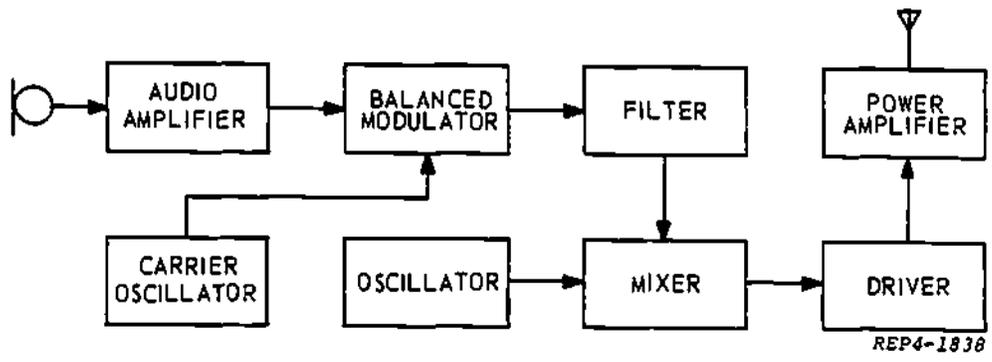

Figure 1. Single Sideband Transmitter
4. From the labeled block diagram in figure 1 and the list of statements that describe each block of a single sideband transmitter, match each with the proper statement.